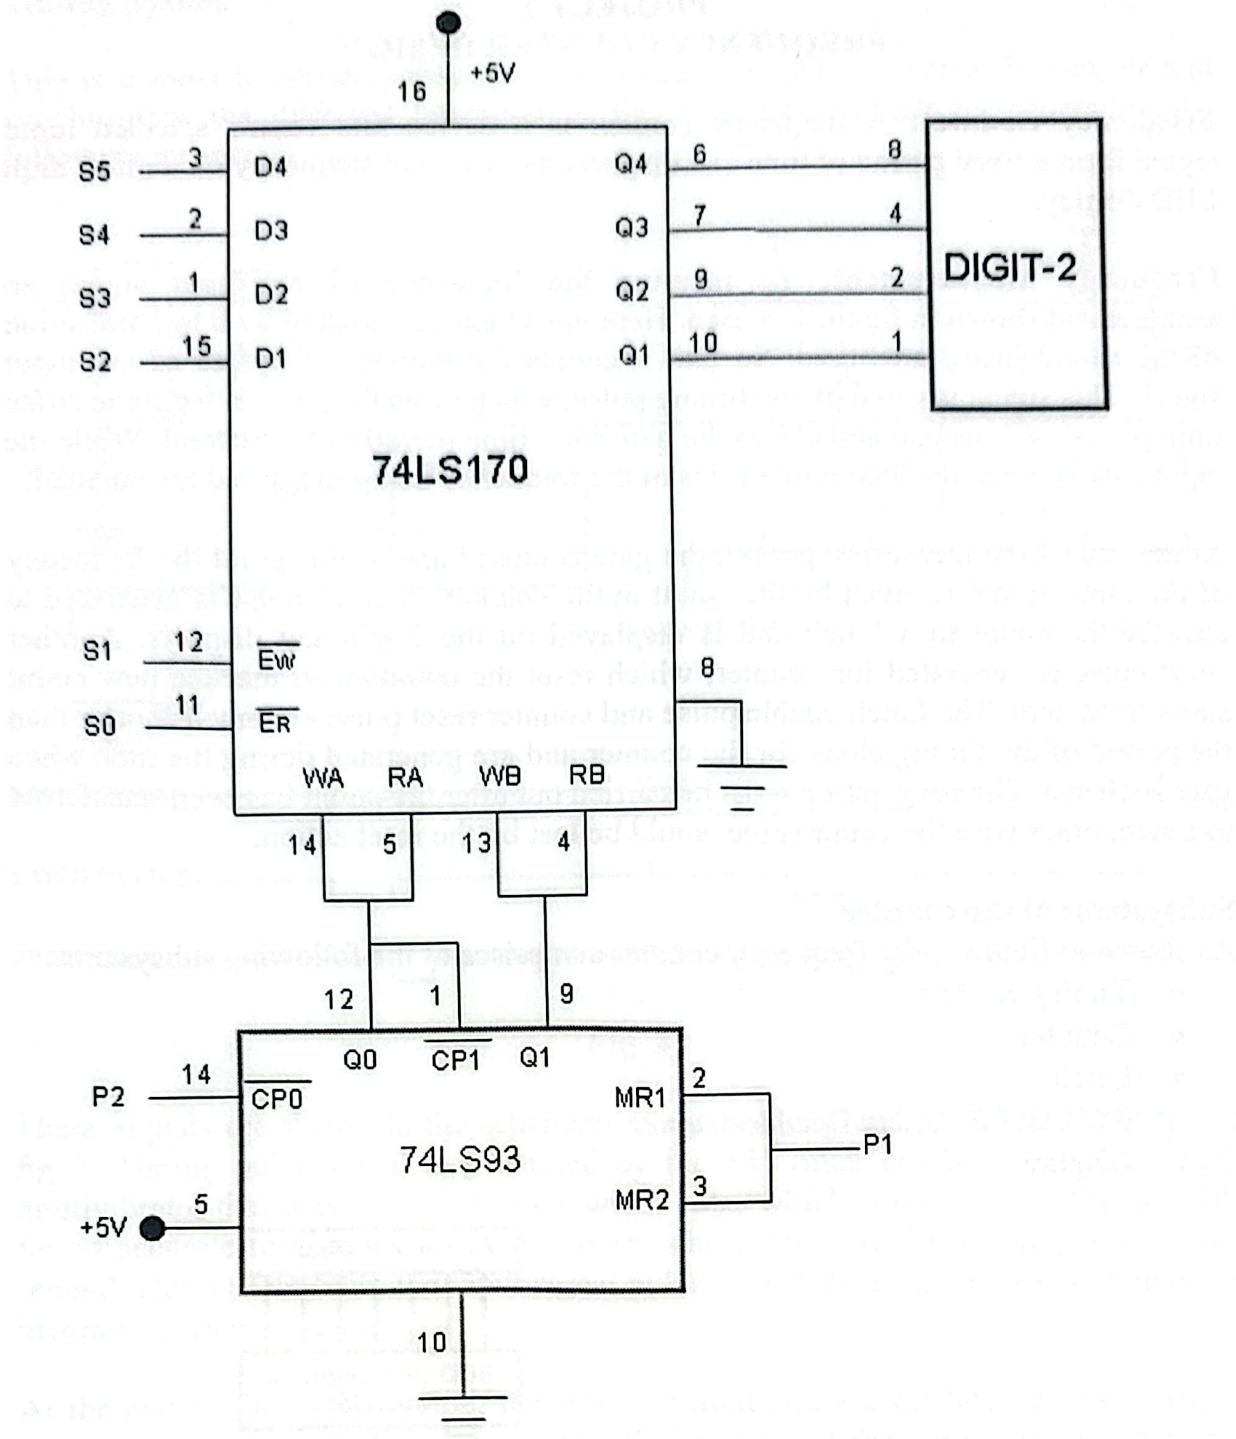

Fig. 16.2
4. Wire the circuit as shown in the Figure 16.2.